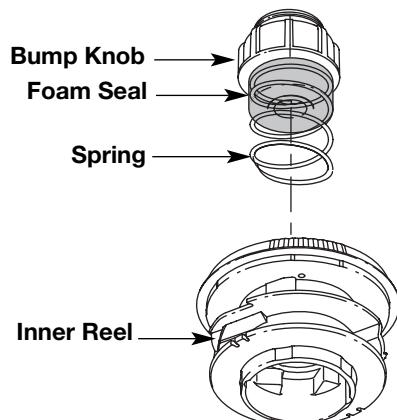

Fig. 18
- Turn the bump knob counterclockwise and remove the bump knob, spring and foam seal (Fig. 18).
7. Place the bump knob, spring and foam seal into the inner reel (Fig. 18).